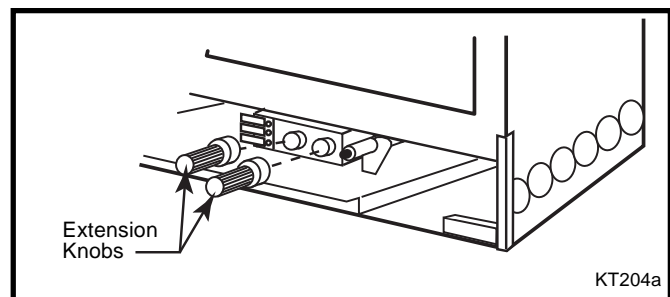

Fig. 33 Install the knob extensions. (RN/RP models Only)
- Install the Control Knob Extensions onto the appropriate Control Valve Knobs. (Fig. 33)
On units fitted with a Honeywell brand control valve the location of the control knobs and the ignitor button may vary slightly from those shown in Figure 33. The Honeywell extension pieces are visually different in design and are not interchangeable with the RN/RP knobs shown in Figure 33.